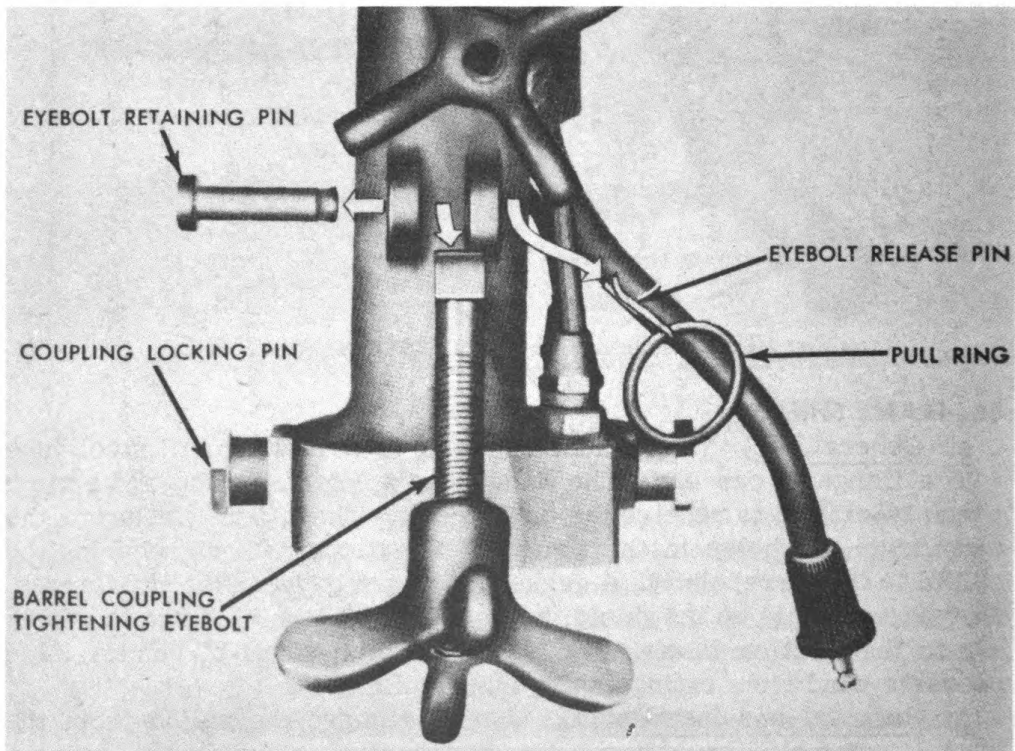
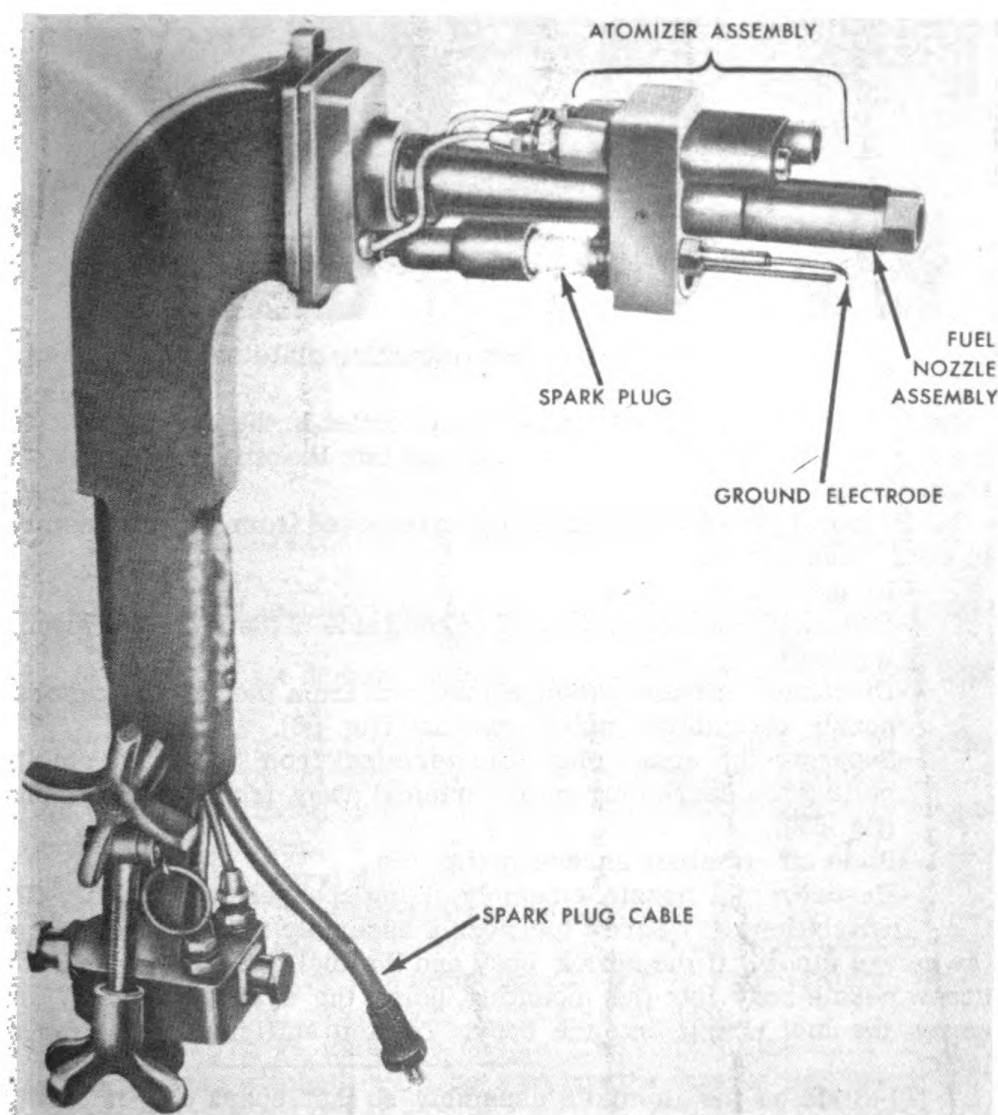
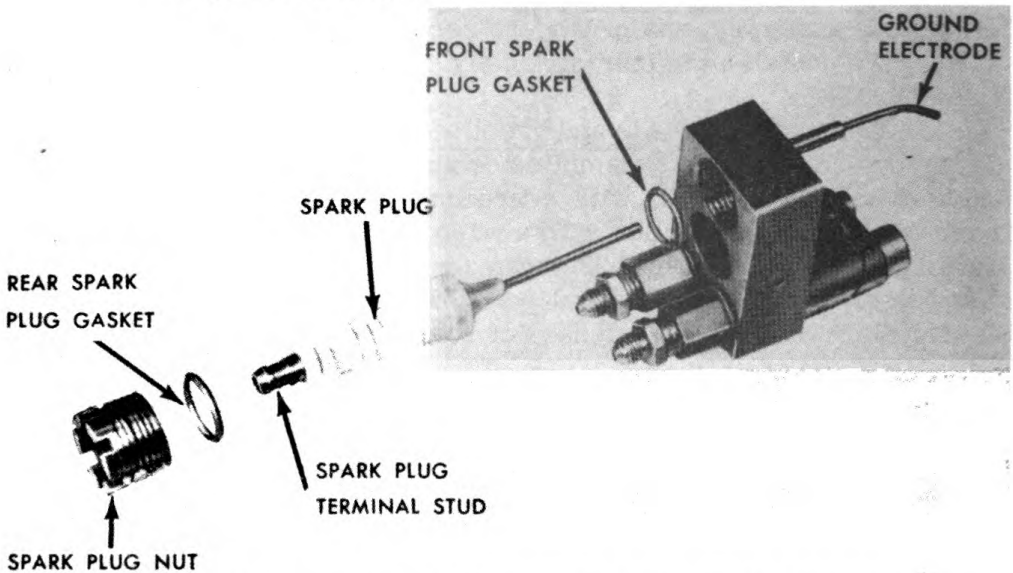
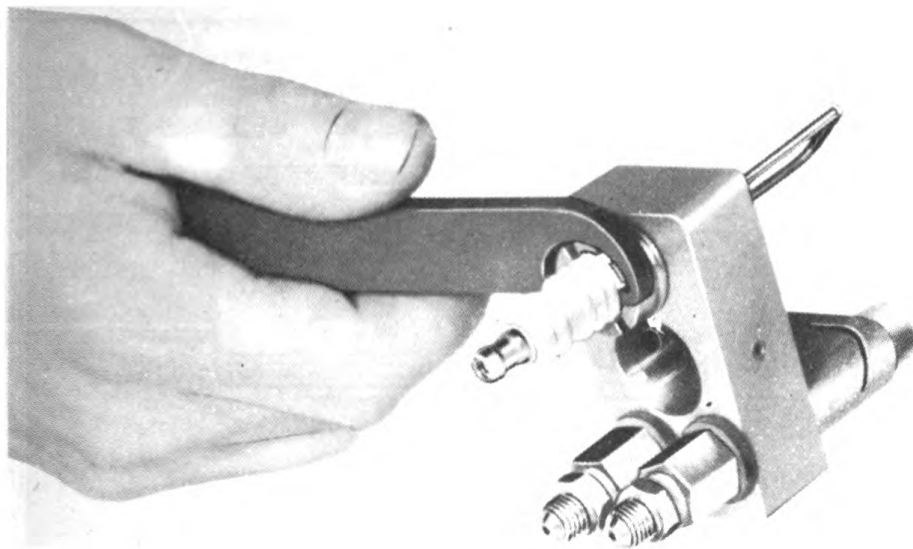

Fig. 63. Exploded view of barrel coupling tightening eyebolt assembly.
Fig. 64. Barrel assembly with flame shield removed.
Fig. 74. Exploded view showing spark plug, spark plug nut, and ground electrode.
Fig. 75. Unscrewing spark plug nut using spanner wrench.
b. Removal of barrel coupling tightening eyebolt (fig. 63). (1) To remove eyebolt, separate eyebolt from the retaining pin by grasping pull-ring on the release pin (cotter pin). With a sharp pull, remove the release pin. Push out the retaining pin and lift out the eyebolt.
(2) To install the eyebolt, reverse procedure for removal described in (1) above.
a. General. The fuel nozzle assembly (fig. 64) consists of the fuel nozzle body and the fuel nozzle. The fuel nozzle body is a stainless
a. Components. The atomizer assembly, which consists of the atomizer mounting plate, atomizer body, and the air and gasoline nozzle assemblies, is mounted on the fuel nozzle assembly (fig. 64).
(1) Atomizer mounting plate. The atomizer mounting plate is a stainless steel unit which supports the atomizer, nozzle assemblies, spark plug, and the electrode. In addition, it serves to provide support for the flame shield.
(2) Atomizer body. The atomizer body is a bronze unit which serves to spray air and gasoline from the air and gasoline nozzle assemblies. It is tapped to receive the air and gasoline nozzle assem-
a. Components. These consist of the spark plug, ground electrode, and spark plug cable (fig. 64). The spark plug is secured to the atomizer mounting plate by the spark plug nut (fig. 74). The electrode is made of tungsten steel and is mounted in a stainless steel socket which in turn is screwed into the mounting plate (fig. 74).
b. Removal. (1) Spark plug. To remove the spark plug:
- Remove spark plug nut with spanner wrench and slide out spark plug (fig. 75). Remove the two gaskets on the spark plug.
(2) Ground electrode. Remove flame shield and remove electrode assembly from mounting plate with adjustable wrench. Do not attempt to separate electrode from its mounting.
c. Installation. (1) Spark plug.